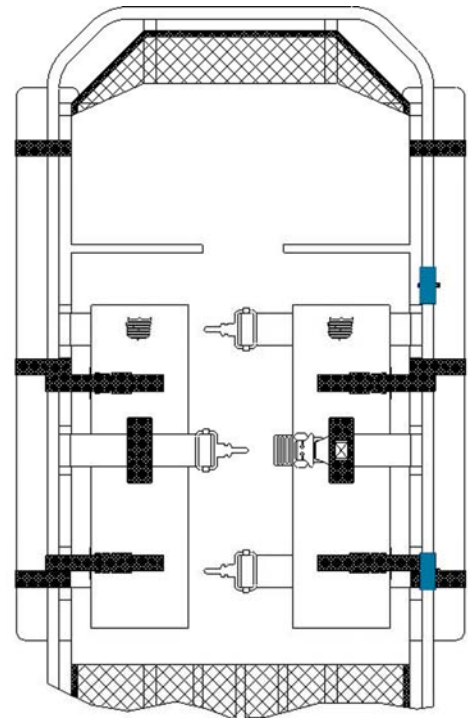

FIGURE 2.
3. To install the chest pads lay both pads in stretcher with labels facing up and toward head end with attachment straps pointing outboard. Left side pad has loop tape on under side of main belt loop (see figure 2).
4. To install the right chest pad, lace the adjuster end of the chest pad strap (black, 2" wide) under the belt loop on front of the right chest pad. Attach chest pad to frame by passing chest pad female buckle straps between top tubular and flat stock rails (inboard to outboard) at the positions shown in figure 2. Ensure lower chest pad attachment strap is directly above red patient restraint strap. Pull straps around top tubing rail and pass up through loops on the side of the pad and secure to the chest pad male attachment buckle.